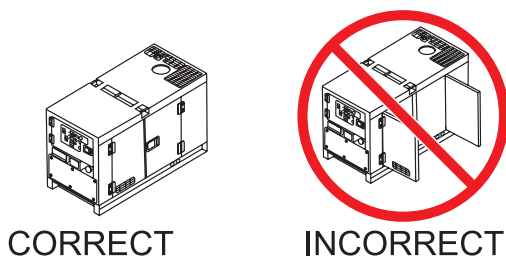

Figure 24. Engine Enclosure Doors
3. Close all engine enclosure doors (Figure 24).